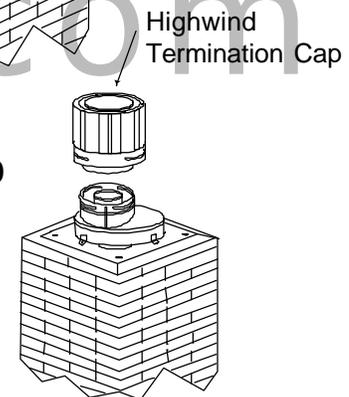

FIG. 9
Step 8. Twist lock the high wind termination cap (SDV part #991) to the top adaptor (see Figure 9). **Do not use any other termination cap.**